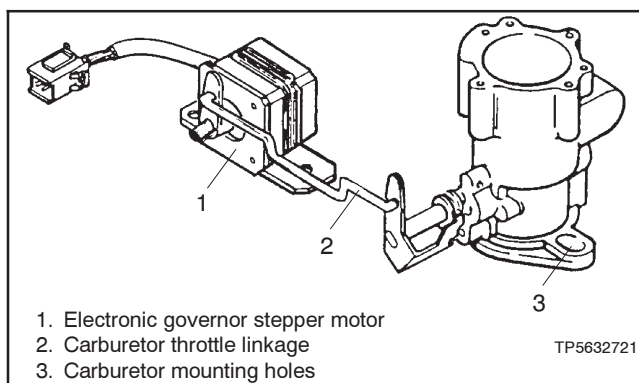

Figure 6-20 Stepper Motor and Carburetor
3. Hold the throttle linkage steady while the engine is running. See Figure 6-20. If the engine runs at a steady speed with no hunting or surging when the throttle is held steady, then the hunting/surging problems during operation are probably caused by the governor. Proceed to Section 6.9.4.
1. Verify that the carburetor throttle linkage is connected to the stepper motor as shown in Figure 6-20.